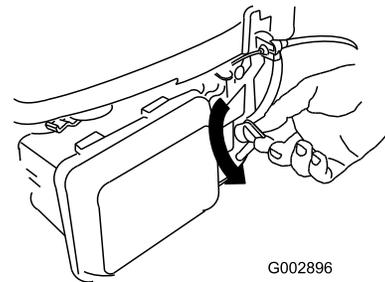

Figure 21
2. Turn the fuel valve lever to the On position (Figure 21).